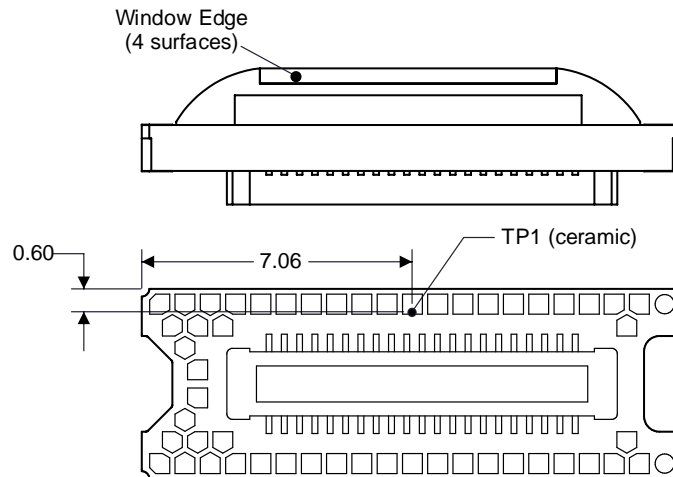

Figure 10. DMD Thermal Test Point
- $T_{\text{CERAMIC}}$  = Measured ceramic temperature (°C), TP1 location in Figure 10
- $Q_{\text{ARRAY}}$  = Total DMD power; electrical plus absorbed (calculated) (W)
- $Q_{\text{ELECTRICAL}}$  = Nominal DMD electrical power dissipation (W)